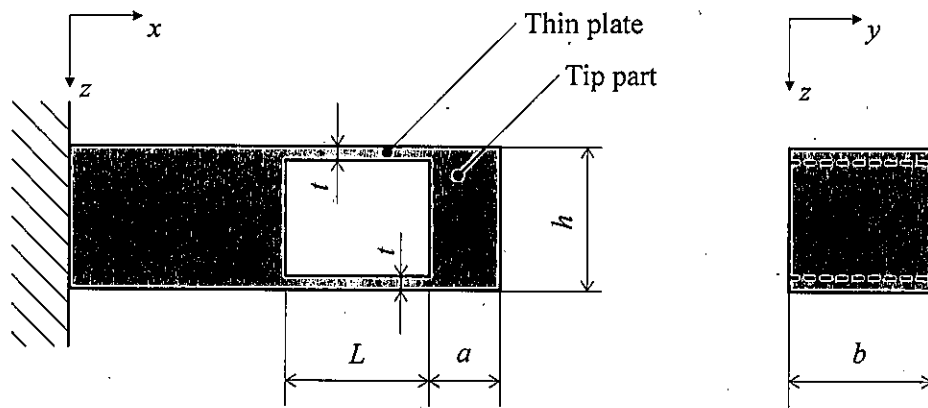

Figure 3-1
- I. Consider a force sensor using a structure which has thin plates parallel to each other shown in Figure 3-1. The density and Young's modulus of the material of the structure are  $\rho$  and  $E$ , respectively. The width and the height of the structure are  $b$  and  $h$ , respectively. The length of the tip part, the length of the thin plates and the thickness of the thin plates are  $a$ ,  $L$  and  $t$ , respectively. Here, the mass of the thin plates is negligible and the other parts of the structure can be regarded as rigid bodies. Answer the following questions.